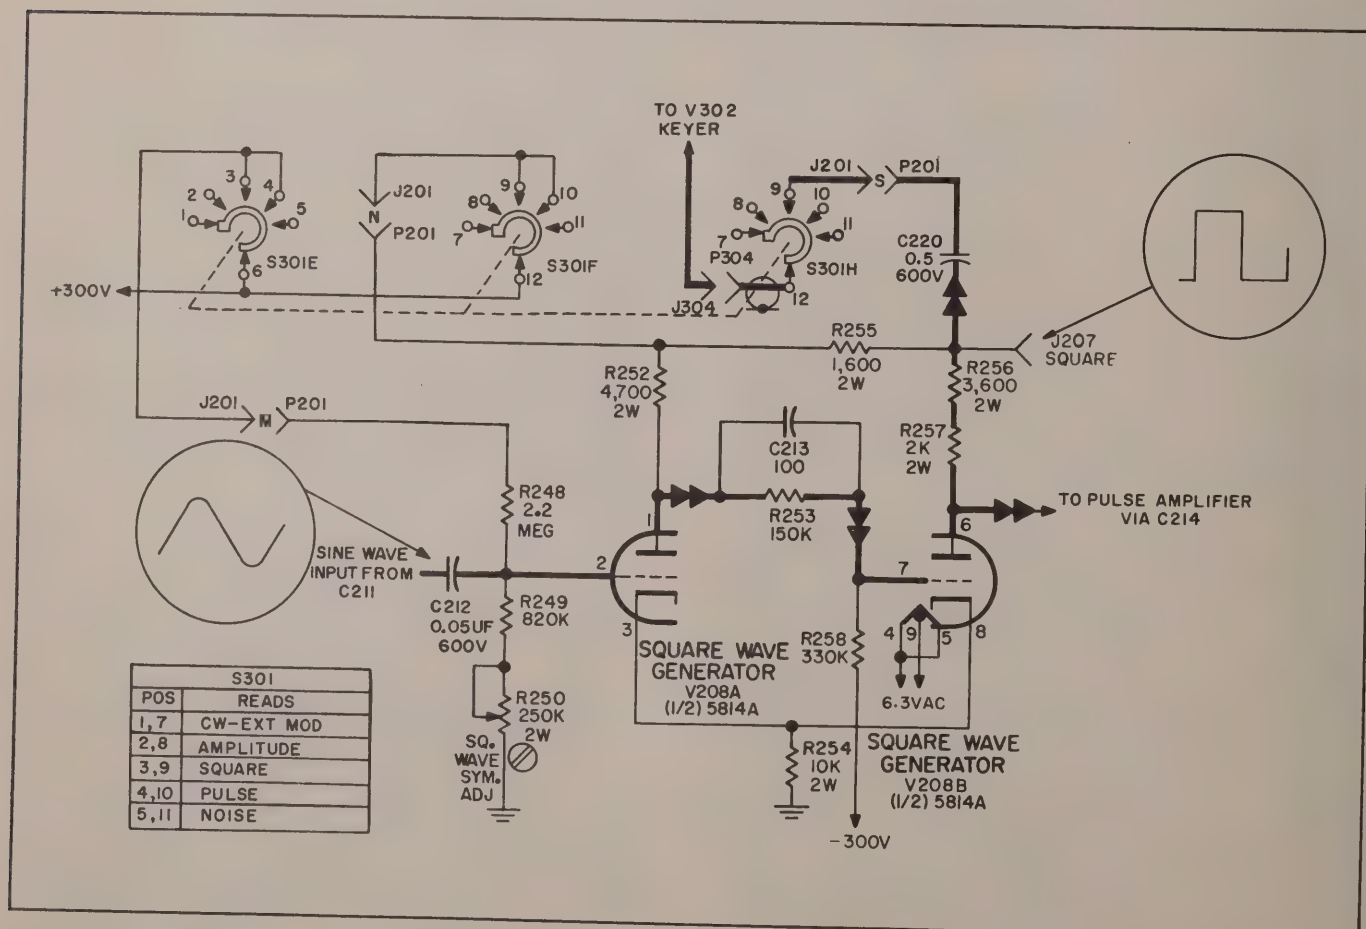

Figure 6-5. Square-wave Generator, Simplified Schematic Diagram
**6-14. SQUARE WAVE GENERATOR.** The square wave generator (see figure 6-5) is a bi-stable multivibrator, with coupled cathodes, that produces a square wave output from a sine wave trigger. The operation is as follows: